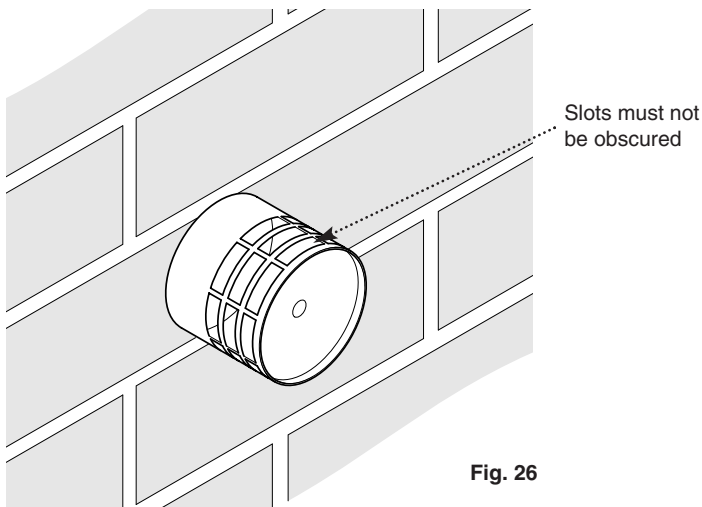

Fig. 26
13. Ensure that the final section of the flue and air ducts are cut to such a length that when the terminals are fitted they protrude through the outside wall(s). None of the slots in the terminal must be obscured (Fig. 26).